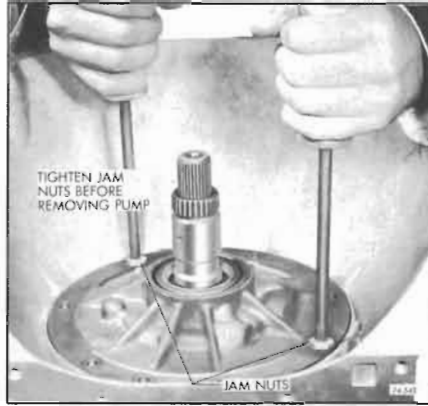

Figure 74-543
3. Install 5/16-18 threaded side Hammers, J-7004, into bolt holes in the pump body tighten jam nuts and remove. See Figure 74-543, pump assembly from case.